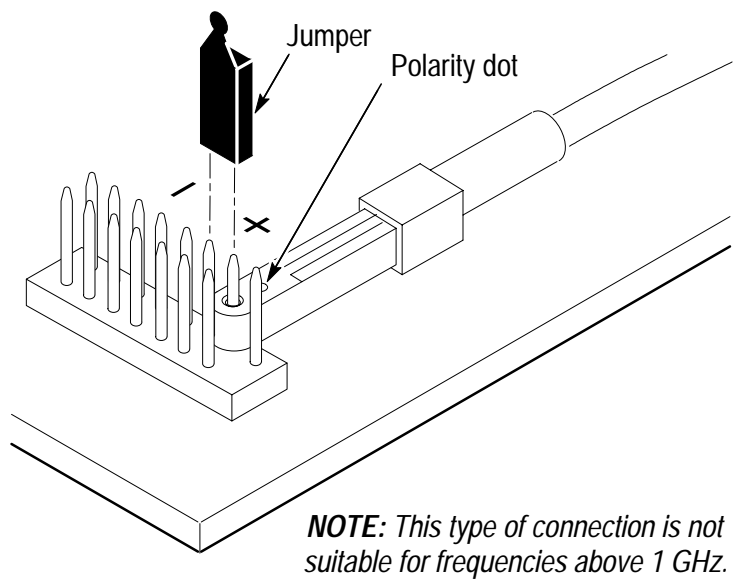

Figure 4: Using a square pin and jumper
- b. For convenience in measuring signals below 1 GHz you can use a square pin and jumper. (See Figure 4.)